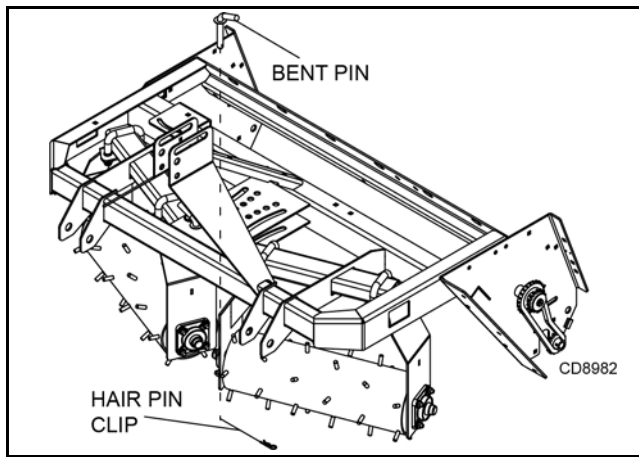

Figure 8
5. Adjust RH and LH front gang assemblies independently. Move tubes forward (see Figure 8) for spiked front rollers. Keep RH and LH adjustment angles the same for proper operation.
7. Lift Overseeder and pull forward to clear wooden blocks. Lower Overseeder to rest position on the ground/level surface and install hair pin clips (see Figure 8).